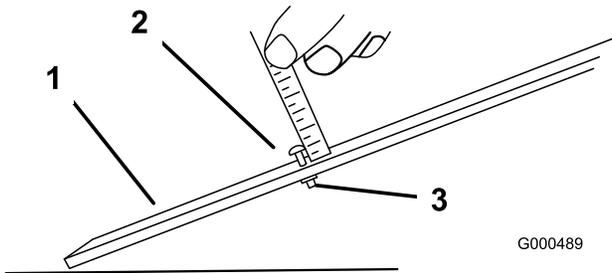

Figure 52
- Loosen the nut on the gauge bar (Figure 52) and set the adjusting screw to the desired height-of-cut. The distance between the bottom of the screw head and the face of the bar is the height-of-cut.